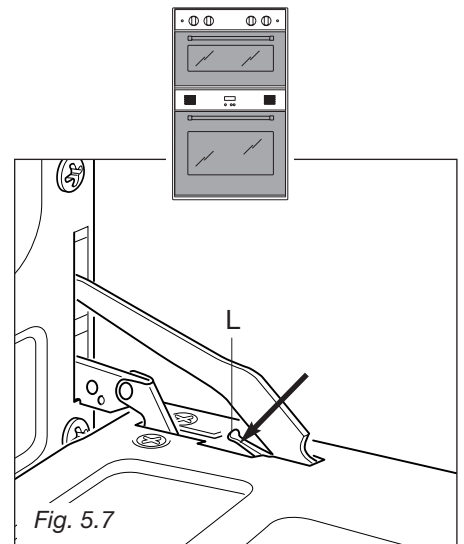

Fig. 5.7
- Push down the lever "L" and, keeping it in this position, slowly close the door in order to block the hinge (fig. 5.7).